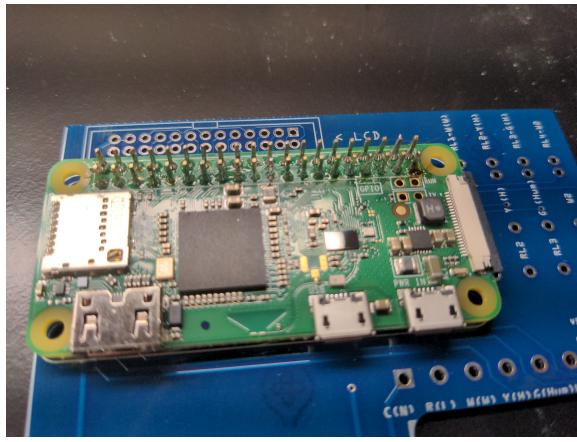

Figure 2: Pi soldered on, sans the reset pin that I had to go back and patch up later
2. Solder the pi onto those headers (figure 2)